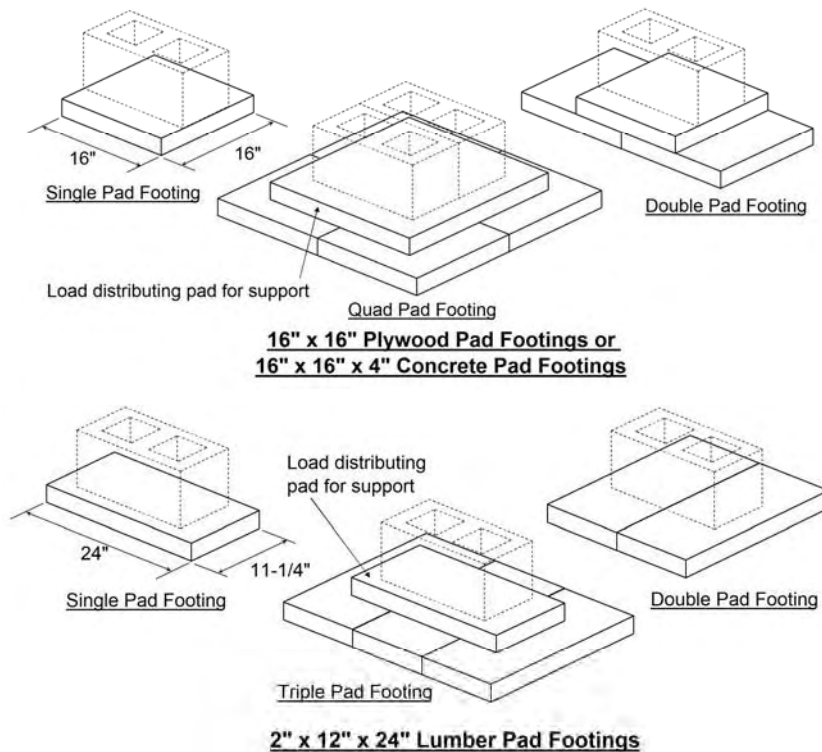

Figure 14. *Perimeter supports*
- Recess perimeter blocking supports and perimeter point load supports no more than 10 inches from the edge of the floor with added support as shown in **Figure 14**.